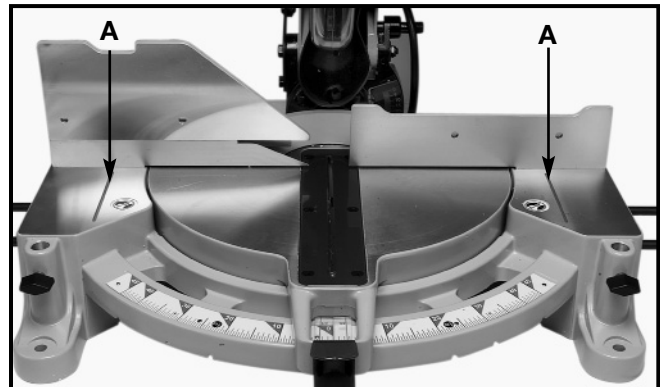

Fig. 17
⚠ WARNING THE AREA INSIDE THE TWO RED LINES (A) FIG. 17 ON THE TABLE IS DESIGNATED AS A HAZARD ZONE. **NEVER** PLACE YOUR HANDS INSIDE THIS AREA WHILE THE TOOL IS BEING OPERATED. ALWAYS USE A CLAMP TO SECURE SHORT WORKPIECES.
4. If the size of the workpiece causes your hand to be inside the table hazard zone (see section **"TABLE HAZARD ZONE"** SEE FIG. 17), use a clamp to secure the workpiece.